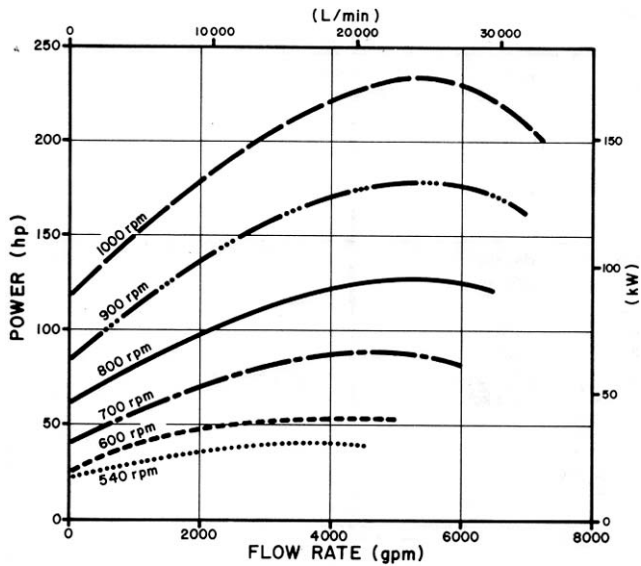

FIGURE 3. Power Requirements to Operate the Lloyd's Model RE-140 Pump at Various Flow Rates and Power Take-off Speeds.
**Power Requirements:** FIGURE 3 shows the power required to operate the Lloyd's model RE-140 pump at various power take-off speeds and flow rates. The maximum power required at a 1000 rpm power take-off speed was 232 hp (173 kW).